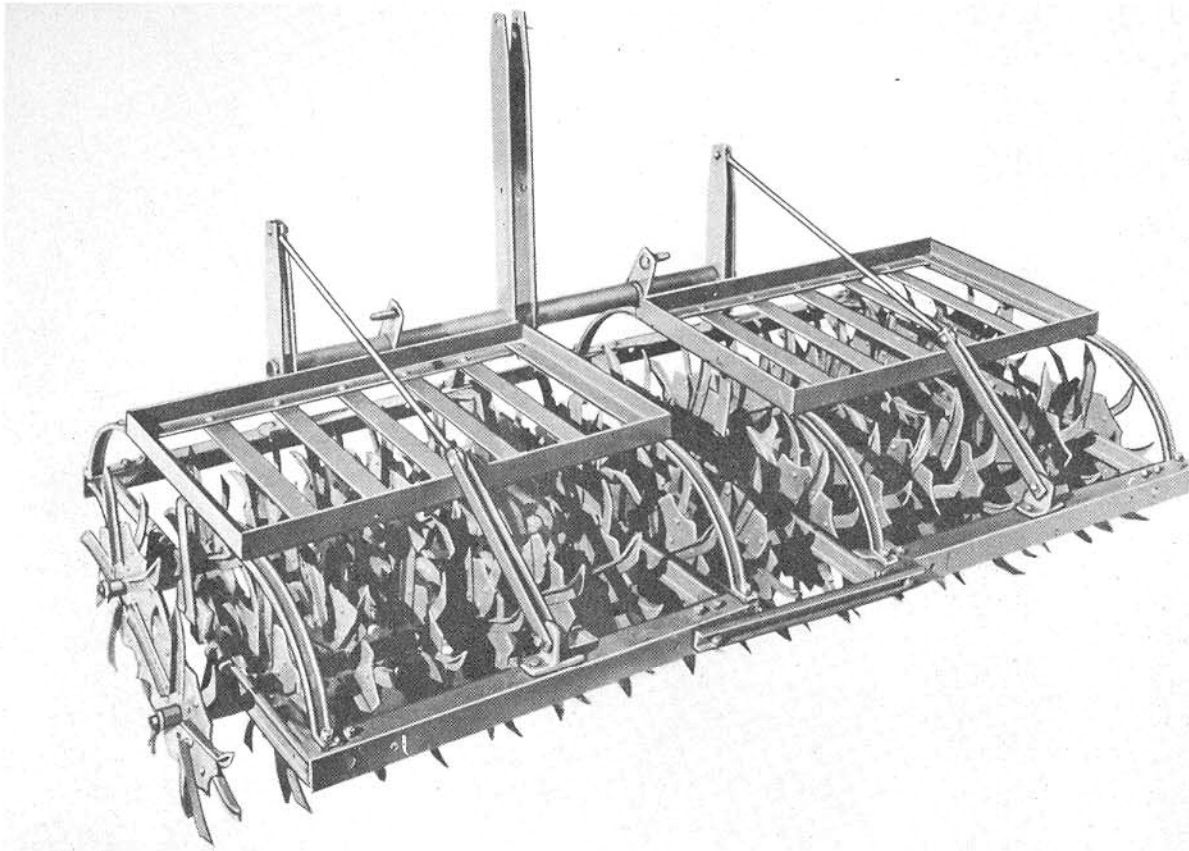
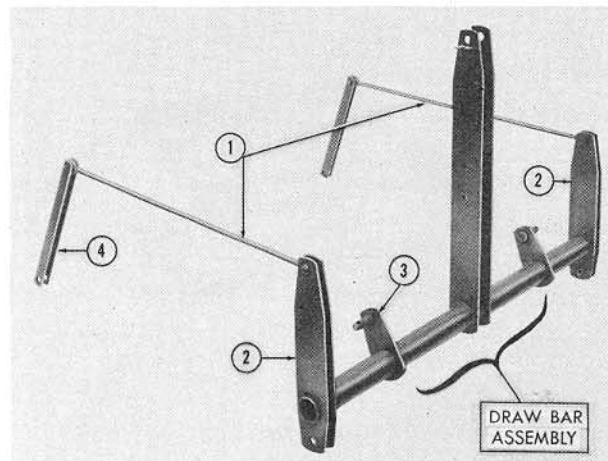

Figure 1
Figure 9
10. Fasten the eye loop ends of the lift rods (1), Figure 9, to the hitch arms (2) of the drawbar assembly as shown. Be sure that the bushing provided is in place in the lift rod eye loop before tightening the nut.
11. Set the drawbar and lift rod assembly shown in Figure 9 in place over the front frame (frame toward which hoe teeth point) hitch brackets and secure with pins and cotter pins. See Figure 1.
NOTE: When correctly assembled, the lower link pin brackets (3), Figure 9, of the drawbar should lean toward the implement when the struts of the drawbar are in a vertical position.
12. Fasten the lift rod connectors (4), Figure 9, to the rear frame hitch brackets with pins and cotter pins. Figure 1 shows these connectors attached.
Reversing the Implement: To reverse the Rotary Hoe, remove the complete drawbar assembly shown in Figure 9, from the frame. Attach the drawbar to the hitch brackets on the rear frame and secure the lift rod and straps in place with pins and cotter pins. The teeth of the hoe will now point rearward. This setting reduces the aggressiveness of the hoe teeth and is recommended for working fields where, if the teeth pointed forward, the action would be too harsh.